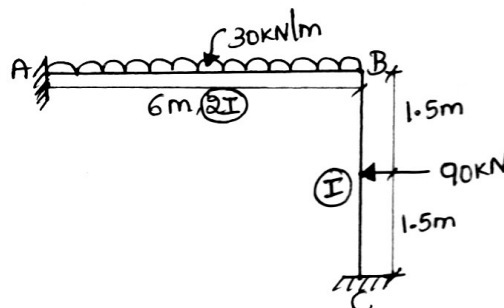

Fig. Q5.a
- 5 a. Analyze the frame shown in Fig.Q5.a using Flexibility matrix method. Draw BMD and elastic curve.